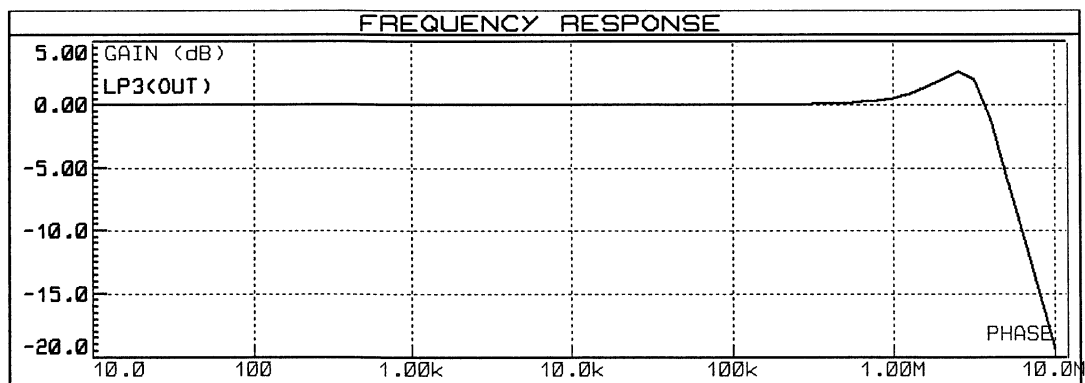

Fig 2
c) Frequency response for unity gain will be as shown in Fig 2: